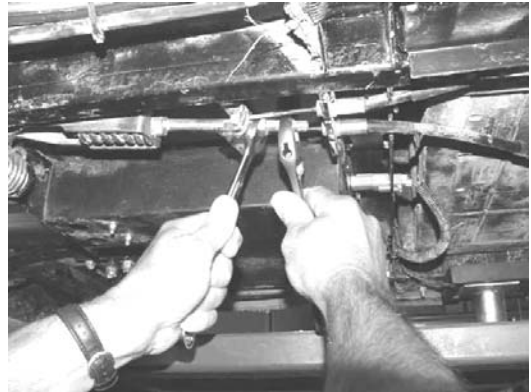

Fig. R1 - To loosen cable, first loosen locking nut at equalizer bar.
1. Loosen cables at pedal linkage. (See Fig R1)